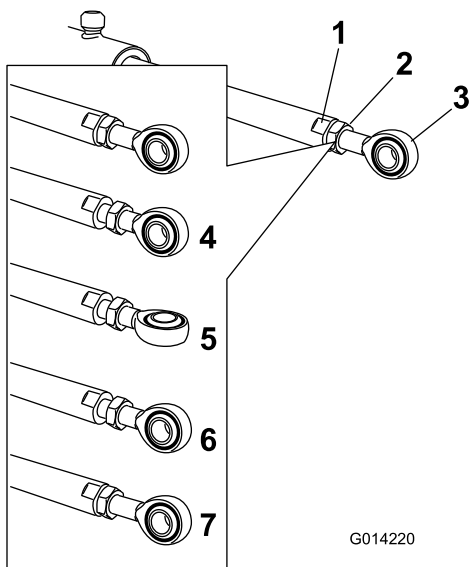

Figure 59
5. Use a wrench on the flat sides of the actuator rod to immobilize it, then loosen the jam nut to allow the eyelet rod to be adjusted (Figure 59).
- Turn the eyelet rod in the actuator rod to shorten or lengthen the extended actuator to the desired position (Figure 59).